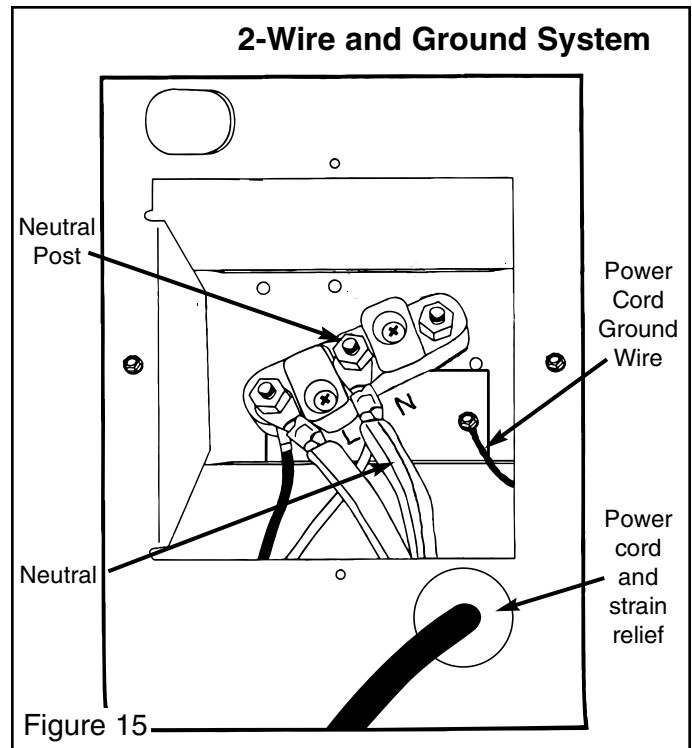

Figure 16
9. Remove washer and dryer timer knobs from miscellaneous parts package and insert them on the respective shafts. **NOTE:** Timer shafts are different between the washer and dryer. (See figure 16.)